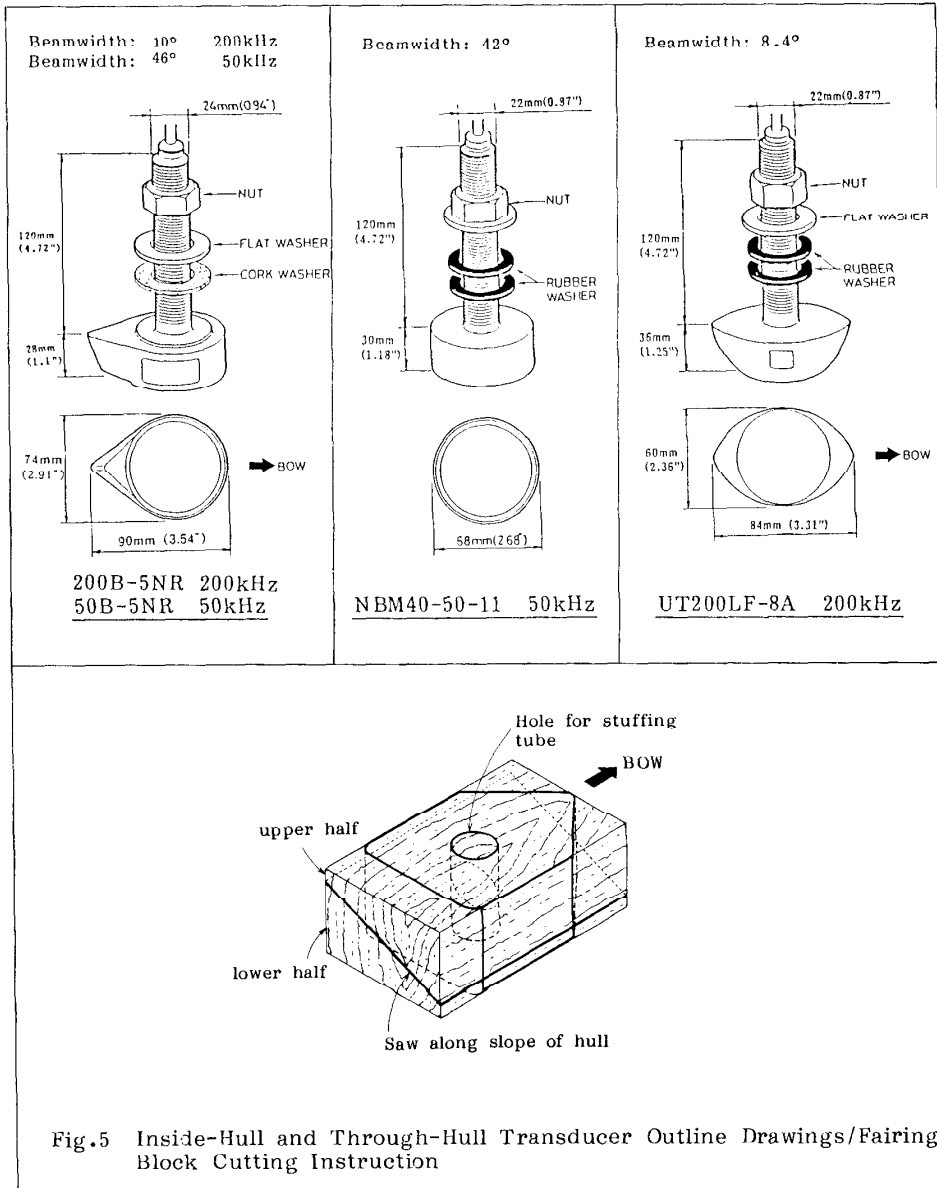

Fig.5 Inside-Hull and Through-Hull Transducer Outline Drawings/Fairing Block Cutting Instruction
2. If the hull is not level within 15 degrees in any direction, fairing blocks made out of teak should be used between the transducer and hull, both inside and outside, to keep the transducer face parallel with the water line. Fabricate the fairing block as shown in fig.5 and make the entire surface as smooth as possible to provide an undisturbed flow of water around the transducer. The fairing block should be smaller than the transducer itself to provide a channel to divert turbulent water around the sides of the transducer rather than over its face.
The inside-hull mounting is accomplished as follows. See fig. 5 on page 7 for outline drawings.